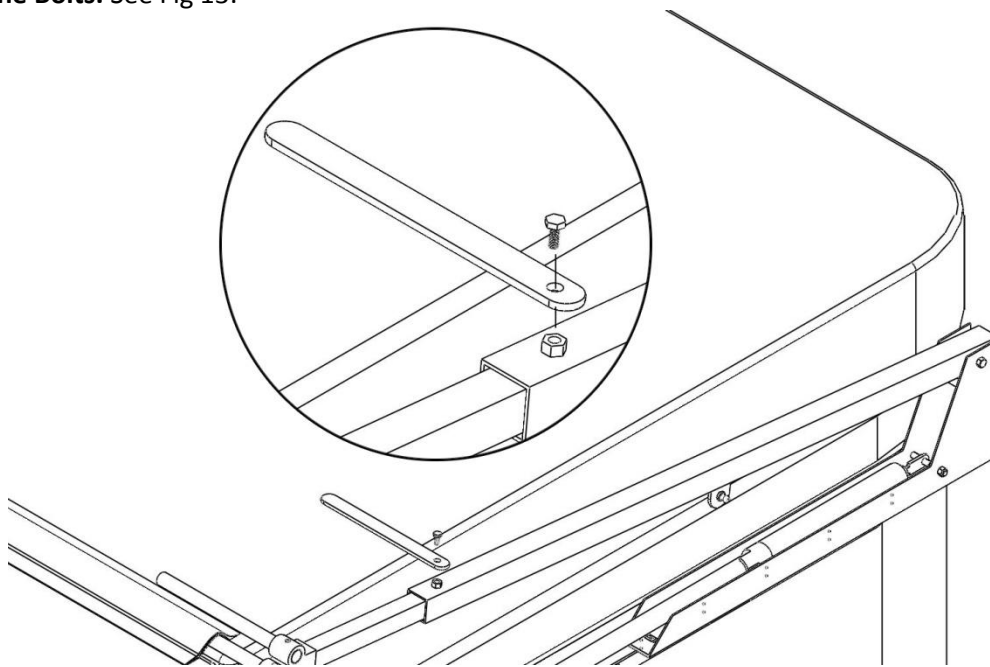

Figure 13
13. Prior to this step, ensure that the cover is centered on the spa (in closed position). Securely fasten the Stabilizer Bars (cvFF) **and** the Extension Arms (cvDD) to the Pivot Arms (cvCC) with the Medium Hex bolt (cvD). Tighten the bolt to the pre-installed nut on the Pivot Arm (cvCC) so that the Extension Arm (cvDD) will no longer slide in the Pivot Arm (cvCC) and the Stabilizer Bar (cvFF) does not move freely. **Do Not Over Tighten the Bolts.** See Fig 13.